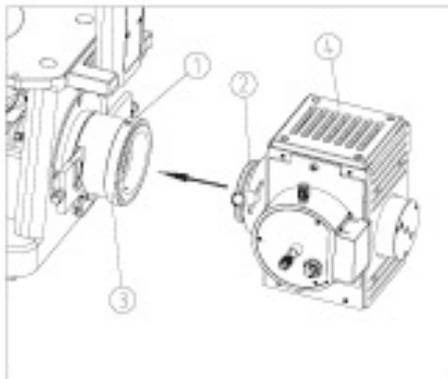

Figure 9
- (1) Loose screw 1 with M4 inner hexagon spanner. (Fig.9)
- (2) Insert the light source with mercury bulb 2 into fluorescence connector 3, and rotate 2 to make its upper plane 4 as horizontal, then tight the screw 1 with M4 spanner.